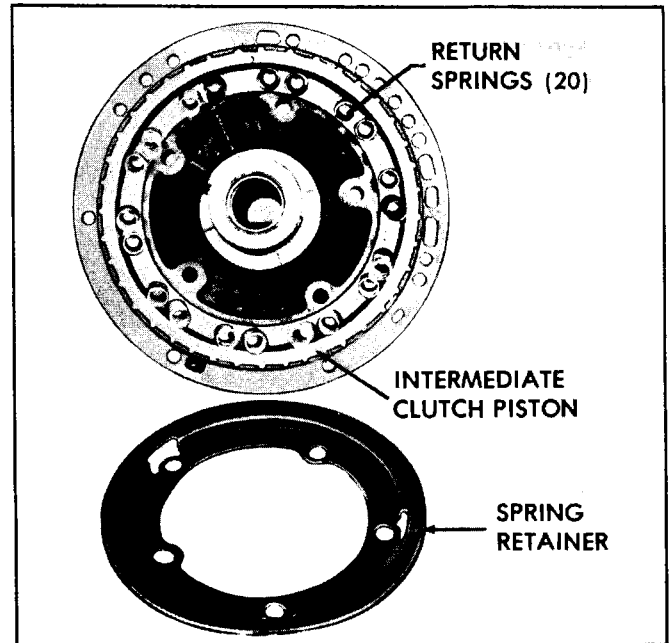

Fig. 7G-79 Removing Retainer, Springs and Piston
4. Remove intermediate clutch spring seat retainer, twenty (20) clutch return springs and intermediate clutch piston assembly (Fig. 7G-79).